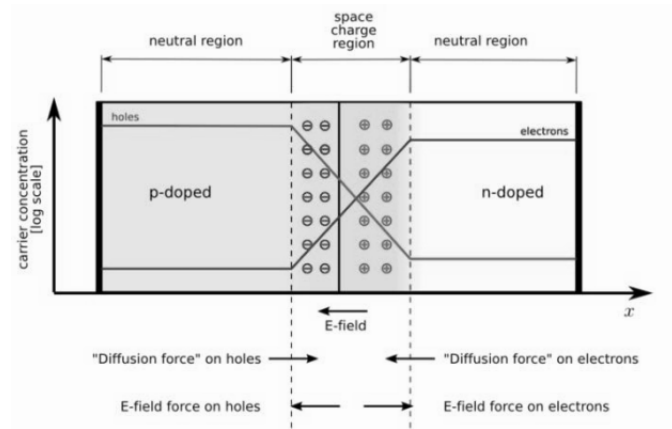

Figure 6: pn junction as used in solar cells. [2]
- These p and n type semiconductors can be placed next to one another to create pn junctions (see **Figure 6**).